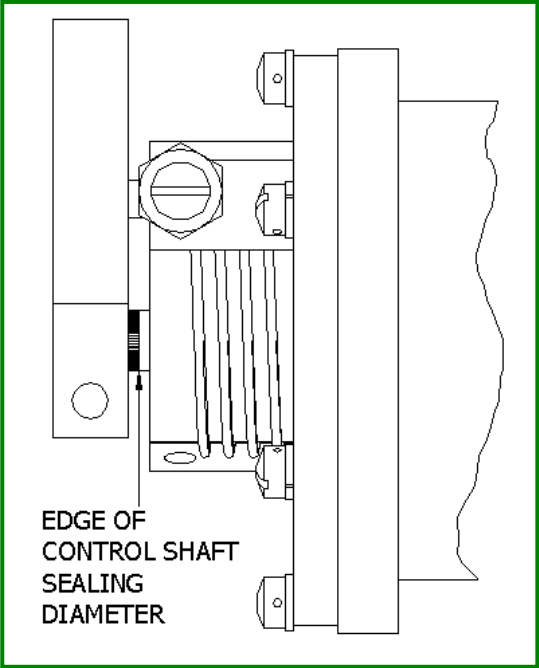

Figure 13
5.6.4 Repositioning of Lever on Control Shaft (see Figure 13)
Following the adjustment processes, it is essential that the speeder spring adjusting shaft is not turned in beyond the governor cover housing, exposing the O-ring. If this should happen an oil leak will occur. See Figure 13 for detailed information!